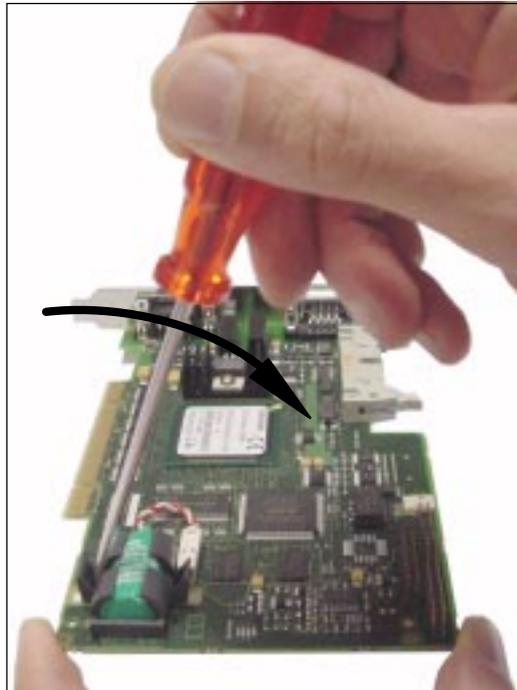

Fig. 2-4 Undo the battery receptacle
9. Undo the battery receptacle using a suitable screw driver (see Fig. 2-4).